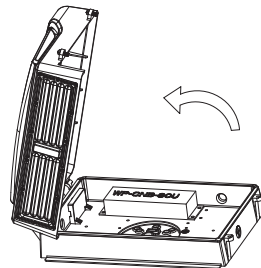

Figure 4
3. Open the fixture, pull out the connection terminals, and remove the light engine of the fixture. (Figure 4)